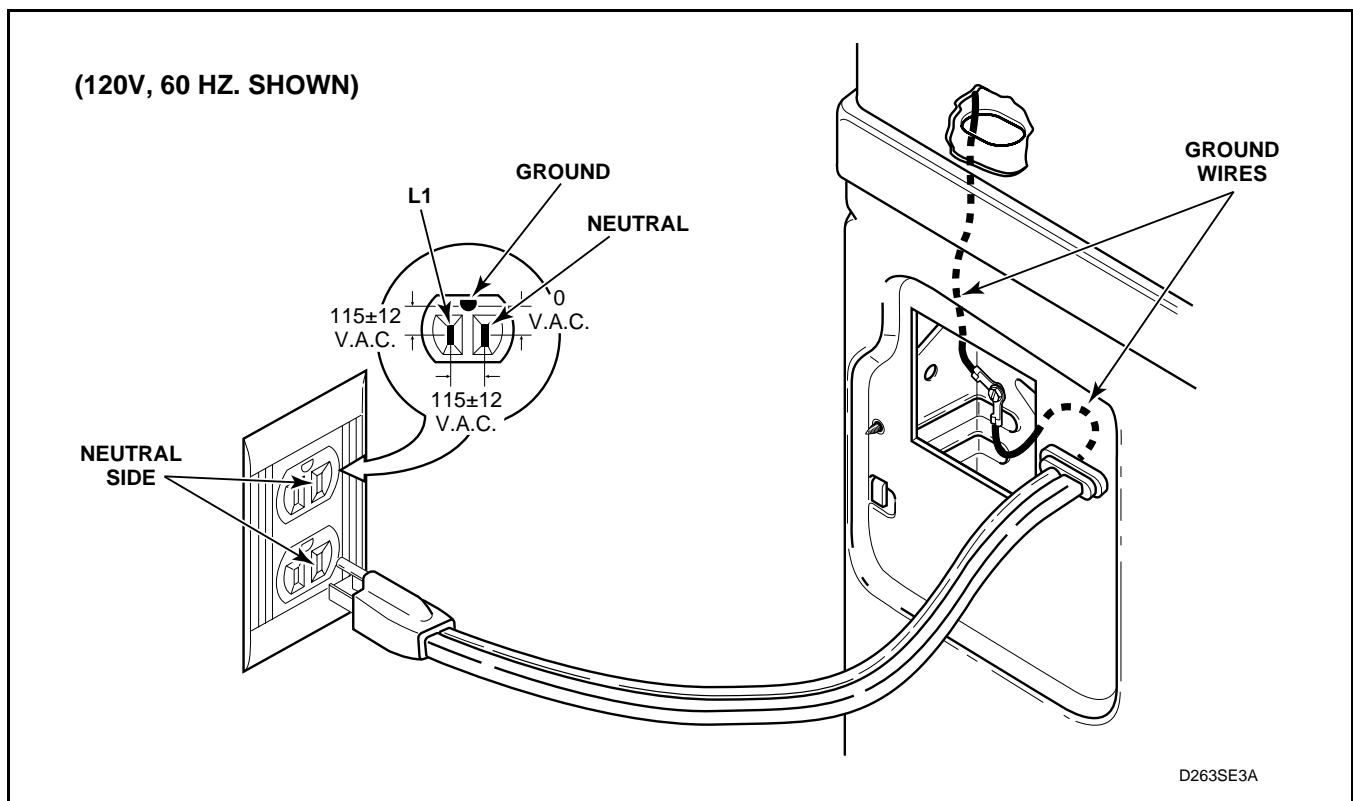

Figure 36
- (3.) Remove screw holding power cord ground wire to rear bulkhead. See *Figure 36*.